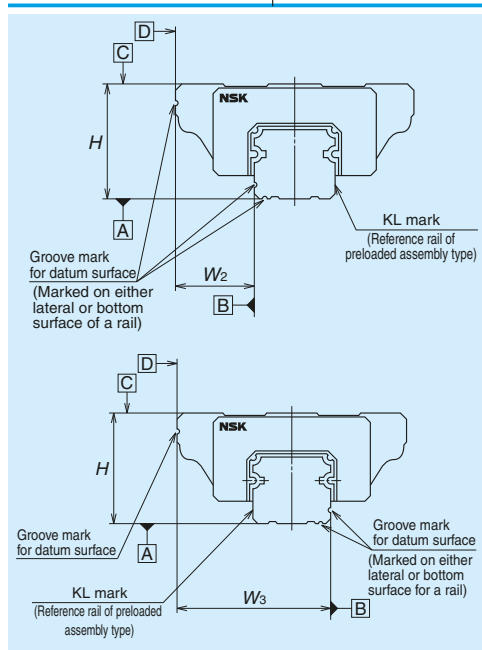
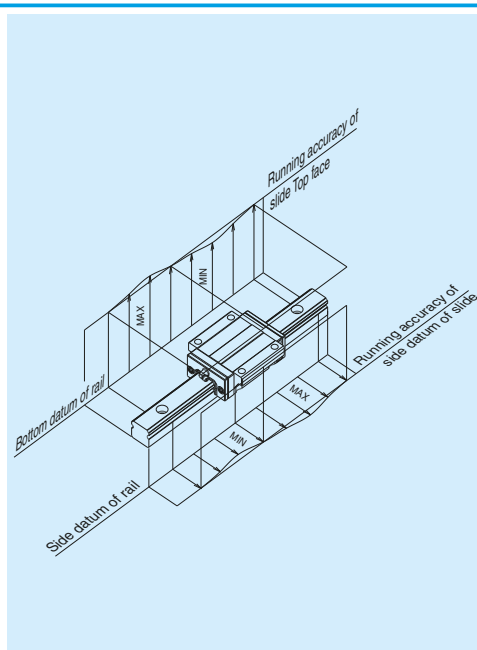

Fig. 4.1 Assembled dimensions
Fig. 4.2 Running parallelism of slide
• Table 4.1, Fig. 4.1 and Fig. 4.2 show accuracy characteristics.
Characteristics	Definition (Figs. 4.1 and 4.2)